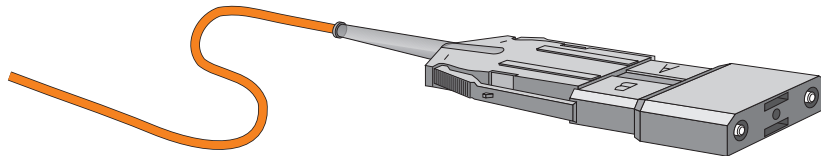

Figure 36. IBM Multimode Duplex Connector
- **LED** - An IBM multimode duplex connector is required to attach multimode fiber-optic cable. Only multimode cable is used. The exterior jacket of multimode cable is typically orange. Figure 36 shows an IBM multimode duplex connector.